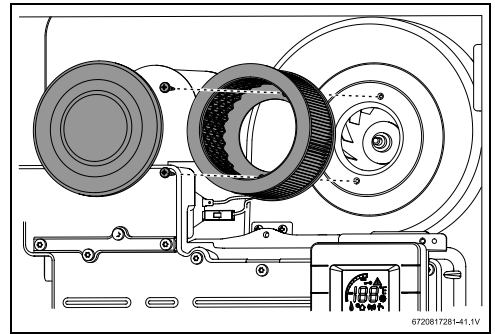

Fig. 42 Replace air filter
- Verify the air filter is clean and undamaged. The air filter is attached to the fan assembly, see fig. 42.